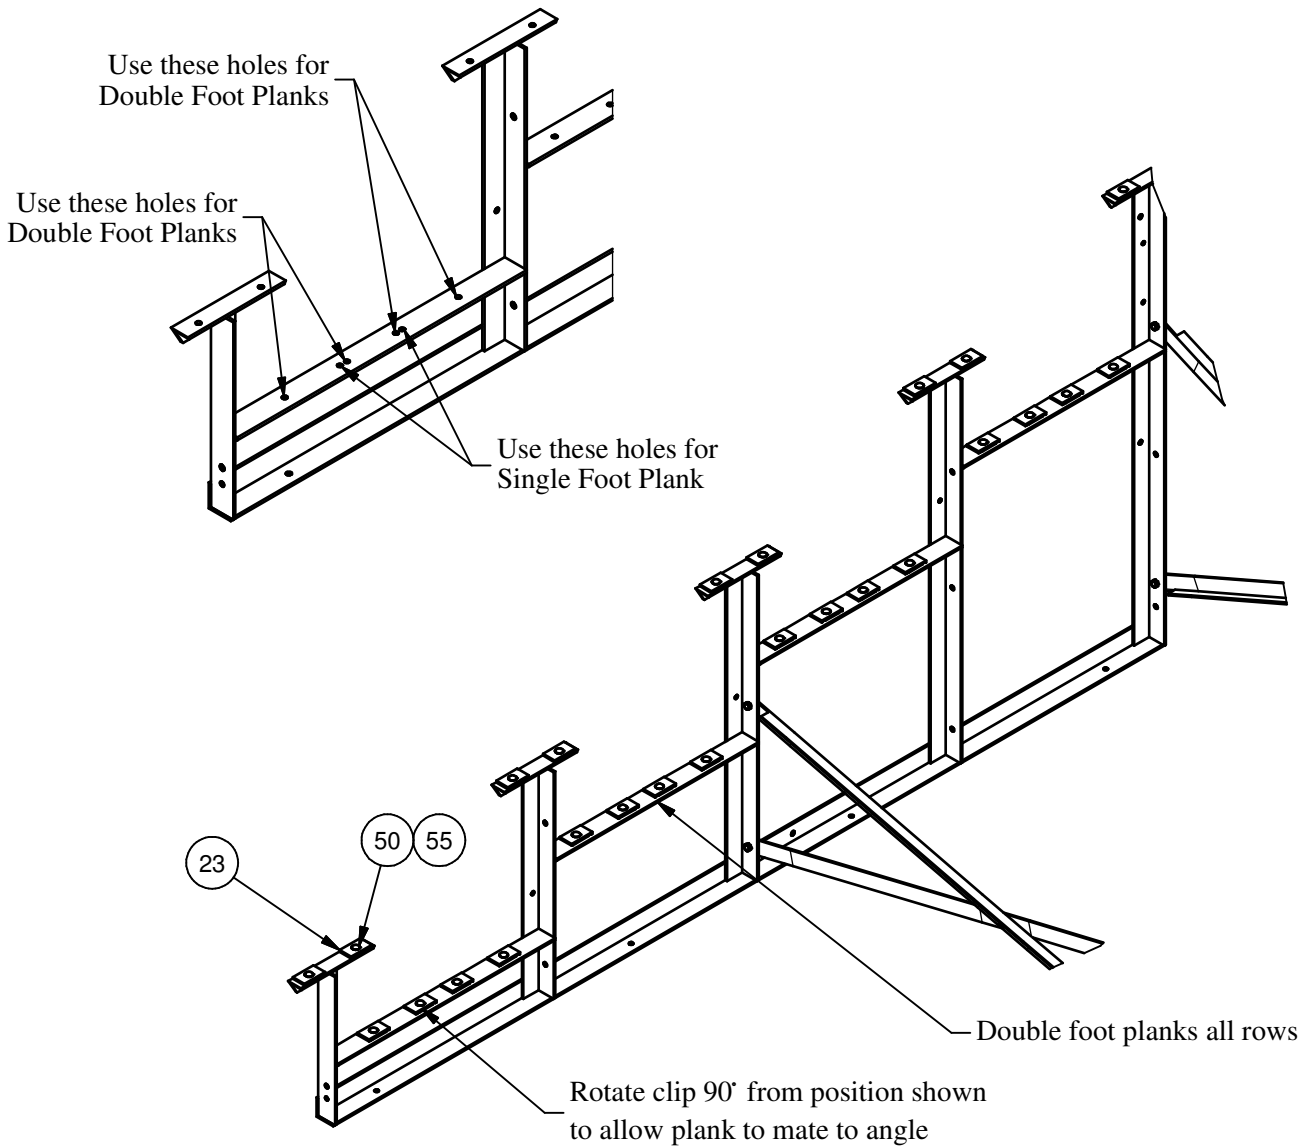

Figure 6
9. Install the seat planks using the mounting clips, 5/16" x 1" carriage bolts, and 5/16" whizlock as shown in figure 6. Note: these mounting clips, bolts, and nuts are required at every frame position.